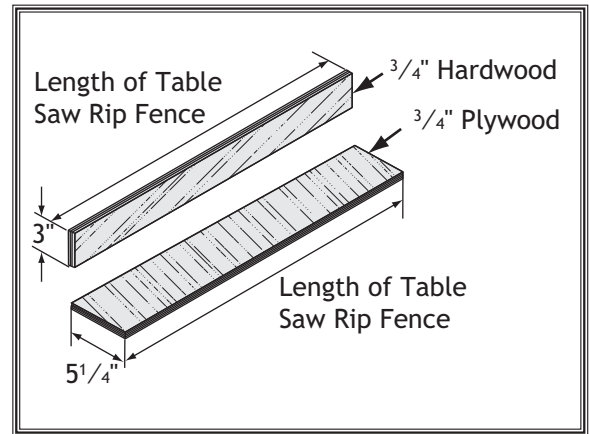

Figure 84. Auxiliary fence dimensions.
1. Cut a piece of $\frac{1}{2}$ " thick plywood $5\frac{1}{4}$ " wide and as long as your table saw fence; cut a piece of $\frac{3}{4}$ " thick hardwood 3" wide and as long as your table saw fence, as shown in **Figure 84**.